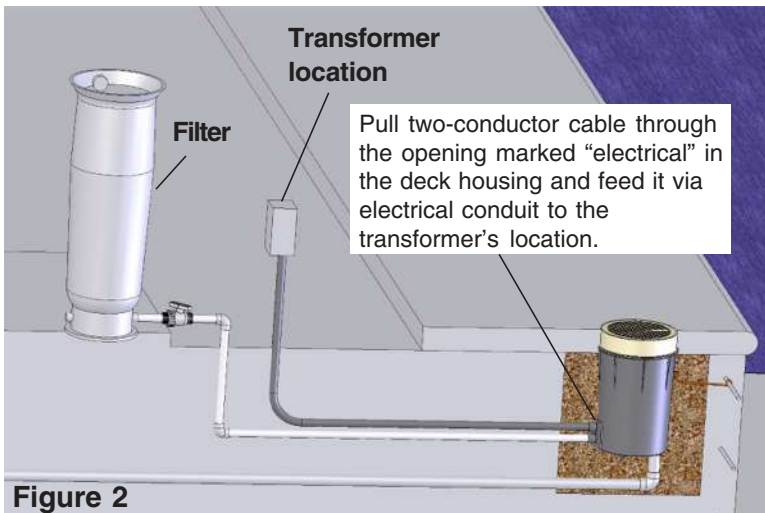

Figure 2
1. Pull the 16 gauge, 2-conductor cable through the opening marked “electrical” in the deck housing and route it, via electrical conduit, to the transformer location (Figure 2). Leave three (3) feet of slack at the deck housing end to allow for servicing.